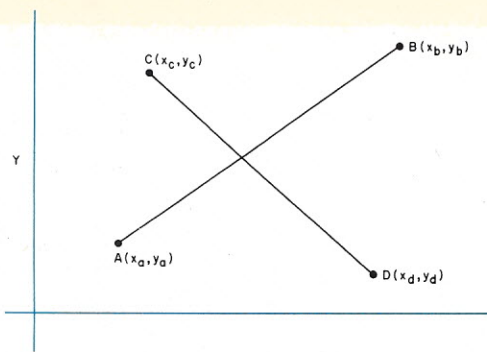

Fig. 2.
1. Equation of a straight line in parametric form. Suppose a line passes through the points A and B with the coordinates  $(x_a, y_a)$  and  $(x_b, y_b)$  as in Fig. 2. Then a pair of equations can be formed in terms of a single variable,  $t$ . For any value of  $t$ , the corresponding values of  $x$  and  $y$  are the coordinates of a point on the line passing through A and B. Also, when  $t=0$ , the point is A; when  $t=1$ , the point is B. For values of  $t$  between 0 and 1, the point lies between A and B. Otherwise, the point does not lie on the segment.
2. Intersection of two lines. Let us examine the intersection of the two lines shown in Fig. 2—the first going through the point A  $(x_a, y_a)$  and the point B  $(x_b, y_b)$ , the second going through C  $(x_c, y_c)$  and D  $(x_d, y_d)$ . The parametric equations for these two lines are shown in Equation 2.